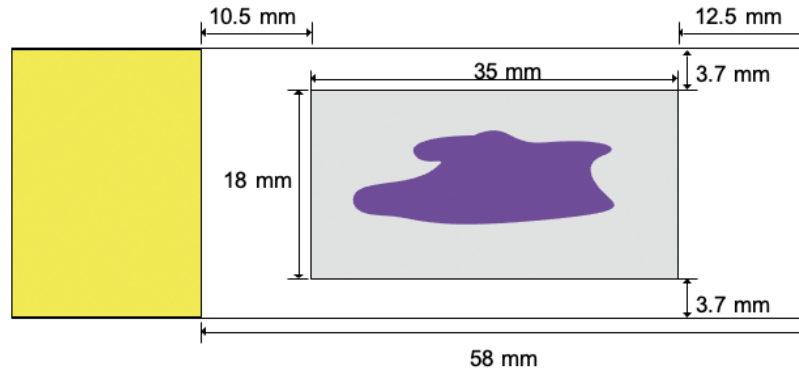

FIGURE 2.2. Fresh frozen tissue placement guide.
7. Gently place the tissue section in the center of the slide within the imageable area. (See Figure 2.2, gray area.)
NOTE > Ensure the tissue section is placed in the center of the slide as illustrated in Figure 2.2 (gray area). Print this page and use the true-to-size figure below as a guide. Tissue placed under the adhesive portion of the Flow Cell will affect bonding and will likely fail. This could result in a leaking Flow Cell and hence loss of the tissue slide. Additionally, ensure the tissue is placed on the positively charged side of the slide to ensure proper adhesion.